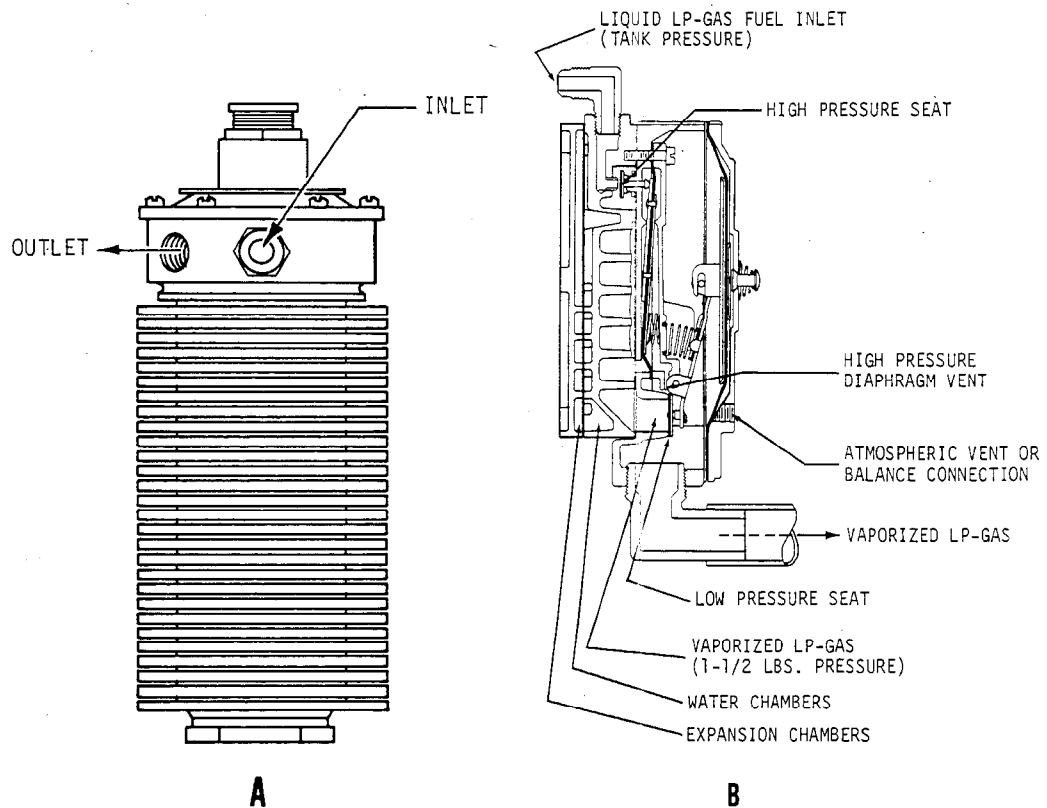

FIGURE 11 - TYPICAL VAPORIZERS - (A) AIR COOLED ENGINES
Vaporizers are devices used exclusively with LPG systems. LPG in liquid form is introduced under tank pressure into the vaporizer which uses heat to convert the liquid into vapor state. Vaporizers are often referred to as convertors - both names describe its function. There are several types of vaporizers. The type shown in Figure 11 (A) is strictly a vaporizer and must be used in conjunction with other pressure regulators. The types classified as vaporizer-regulators in Figure 11 (B) provide vaporization plus primary or secondary regulation of gas pressure.